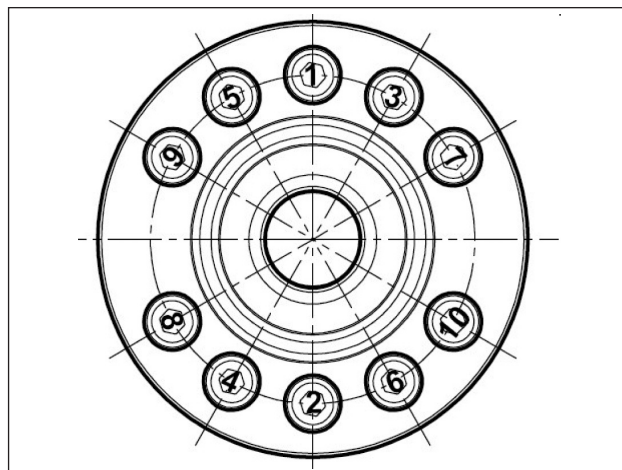

Fig. 53
- **** The supports diagram fixing screws Fig. 53 must be tightened in two steps: